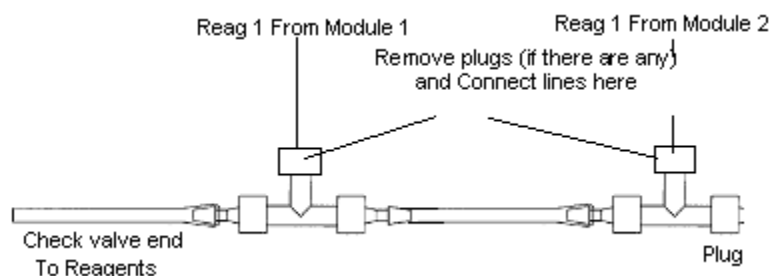

Figure 56. Reassembling Manifold String
- 3 If plugs are attached, remove them and connect the line for reagent 1 from each module in the workstation to the manifold. Labels in the start-up kit can be used to help identify lines. For example, if you have a two module workstation, connect the lines as shown in Figure 56.